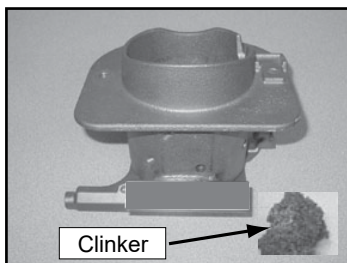

Figure 15.1 - Fire pot with large clinker
- d. It may be necessary to use your fire pot clean-out tool to chip away material that has built up on the sides of the fire pot and to push out any clinkers (**Figure 15.1**).